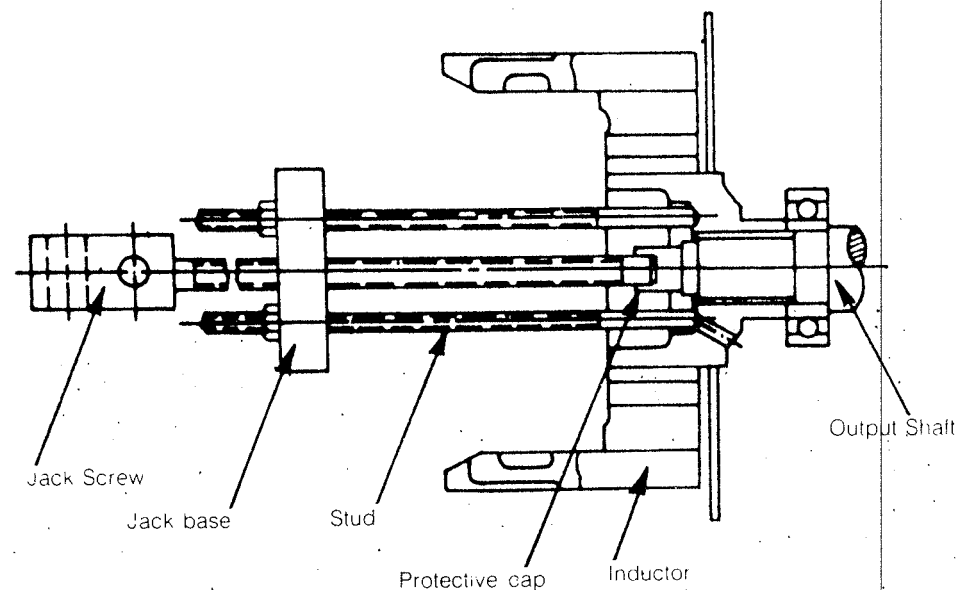

Fig. 6 Removing Drum or Inductor
- (1) Disconnect the ED motor from the power source.
- (2) Separate the bracket⑭ by removing the fastening bolt⑬. Take the bracket⑭ together with the inductor⑨, output shaft⑰, yoke⑪, excitation coil⑩, and tacho generator⑫⑬ from the frame⑦ as one body.
- (3) Loosen the induction motor① and the frame⑦ by removing the fastening bolt, then remove the induction motor① from the frame⑦.
- (4) Use tools to remove the stop ring⑤ and pull out the rolling drum⑧ from the induction motor①. See "Removing drum or inductor" (Fig. 6).
- (5) Loosen the bolt of the air ring⑫, remove the air ring⑫. (If there is no air ring, omit this step).
- (6) After loosening the leads of the tacho generator⑫, remove the tacho generator bracket⑬.
- (7) Use tools to remove the stop ring⑮, take the tacho generator⑫ off the shaft⑰.
- (8) Use tools to take the inductor⑨ and the output shaft⑰ off together, detaching the bracket⑭. (Before taking off these parts, please remove the tacho generator key to avoid damage to the motor bearing②).
- (9) Remove the bearing cover⑮.
- (10) After loosening the excitation coil⑩ leads, remove the yoke's⑪ fastening bolt and take off the yoke.
- (11) When the motor bearing② must be changed, please use a jack to take it off.
- (12) Note: The inductor⑨ and the output shaft⑰ are fitted snugly together; please do not pull out the line yourself.
- (13) Note: The excitation coil⑩ system and the yoke⑪ are attached to each other; please do not separate them yourself.